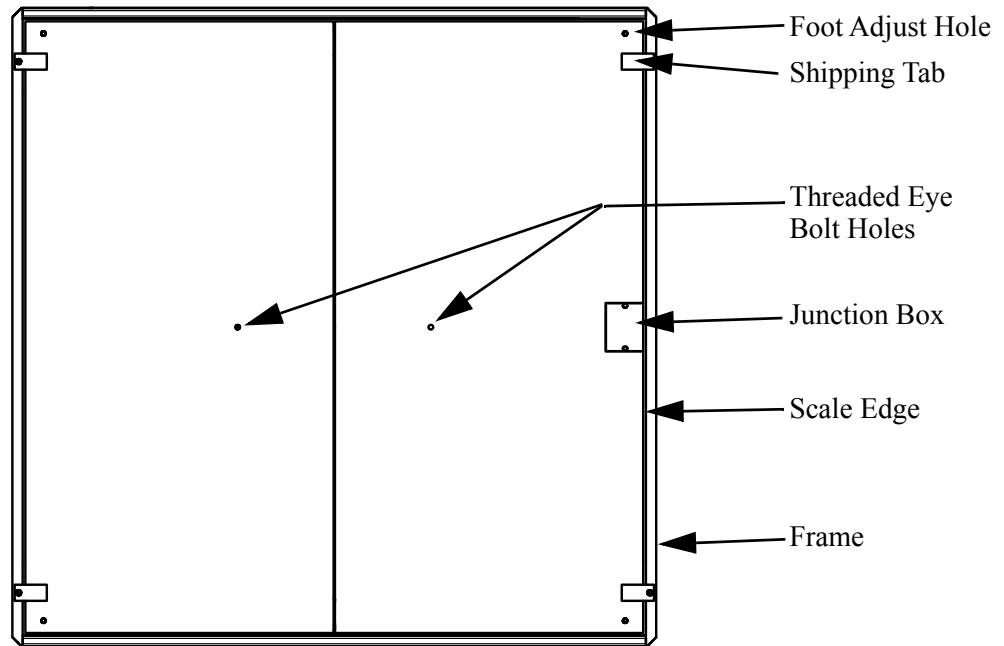
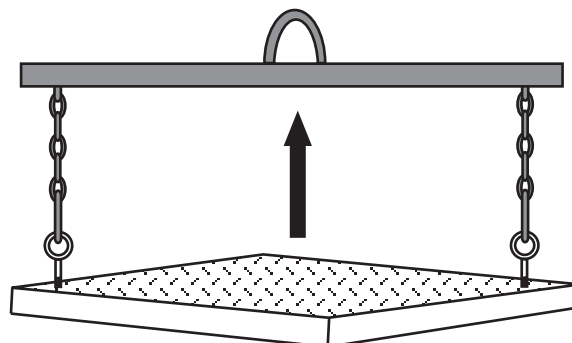

Figure 2-1. RoughDeck AX-1 with Frame
Figure 2-2. Proper Lifting Technique
If the scale was purchased with a frame, it is necessary to remove the shipping tabs. After removing the shipping tabs, lift the scale out of the frame using the provided eye bolts (Figure 2-2 and Section 2.4 on page 5) and remove the shipping blocks located under the scale (Figure 2-1). Lower the scale back down into frame. Adjust the scale so it is flush with the frame.
**Important** Lift the scale only with a properly designed spreader bar as shown in Figure 2-2. Lifting force must be vertical to avoid bending the eye bolts.
2. Attach chains to the eye bolts to lift and position the scale. See Figure 2-2.